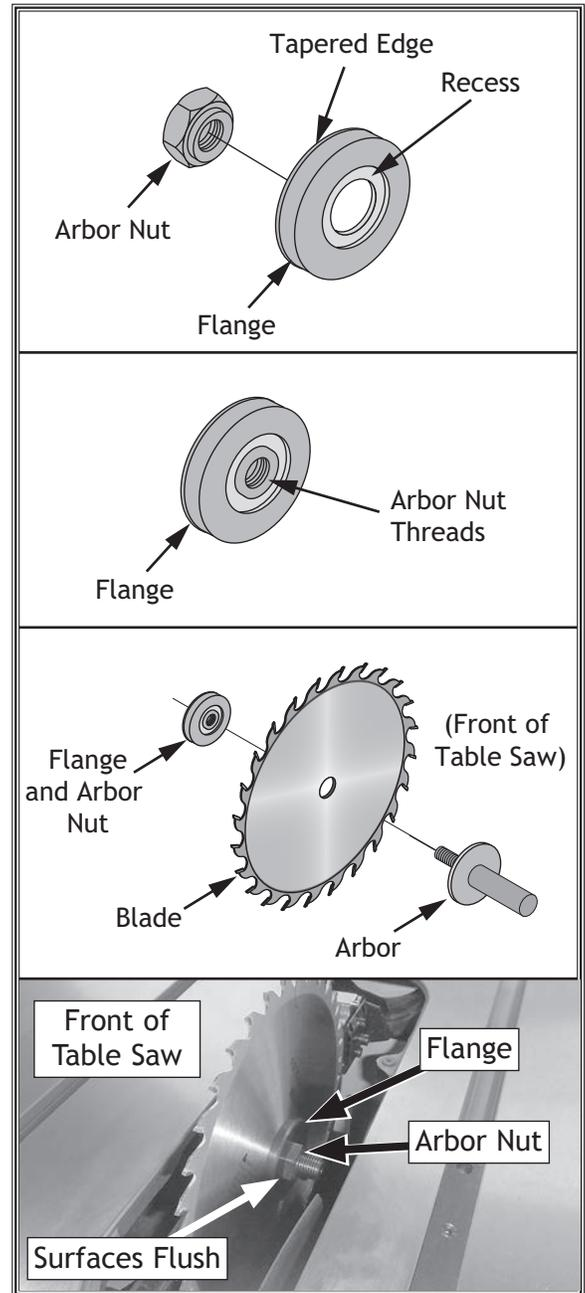

Figure 49. Blade order of installation and teeth facing correct direction.
5. Install new blade, flange, and arbor nut on arbor, as shown in **Figure 49**, with upper teeth facing front of saw. Ensure the tapered edge of the flange faces the arbor nut and the recess faces away from the arbor nut. The arbor nut should be flush with the outer surface of the flange.